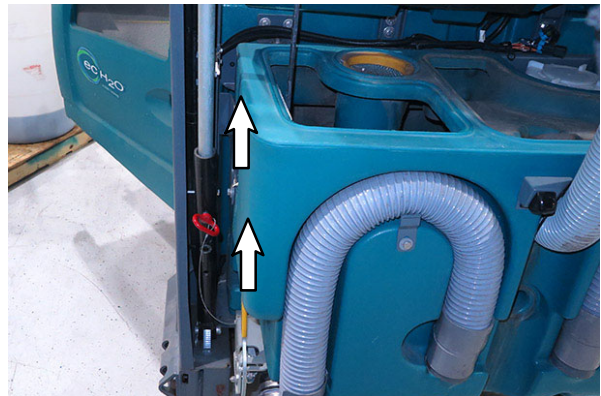
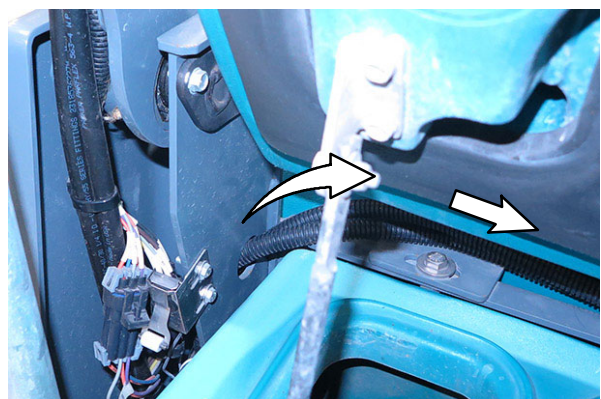

FIG. 18
FIG. 19
26. **M20/M30 Only:** Route blue spotlight harness (14) rear blue light lead along the main wire harness, up the hopper lift leg, and through the hole in the lift leg. (Fig. 18/ Fig. 19)